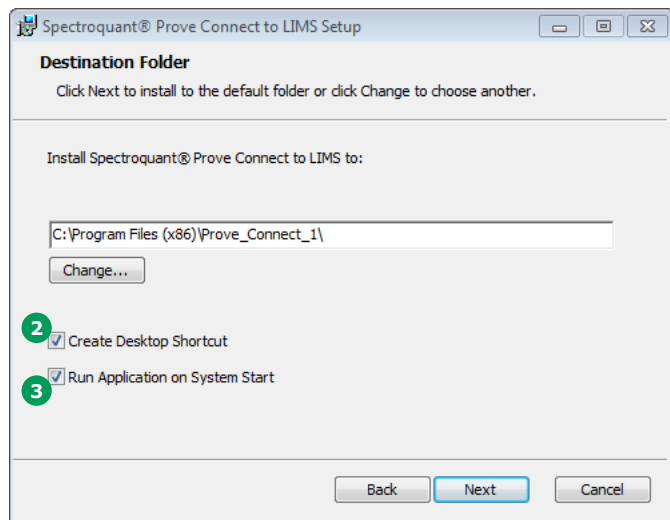

Figure 7 - Example for a non-predefined destination folder (Prove\_Connect\_1) for software installation
If the folder does not exist, the new directory will be created. After clicking "OK" the dialog window is closed, and the selected path is displayed in the destination folder screen (Figure 7).
2. Please check **2** (Figure 7), if you would like to create shortcuts on your desktop.
3. Please check **3** (Figure 7), if the application should be started automatically started with the System Start
If "Run Application on System Start" was selected during installation (Figure 7), Prove Connect will be started, when the user logs in to Windows.